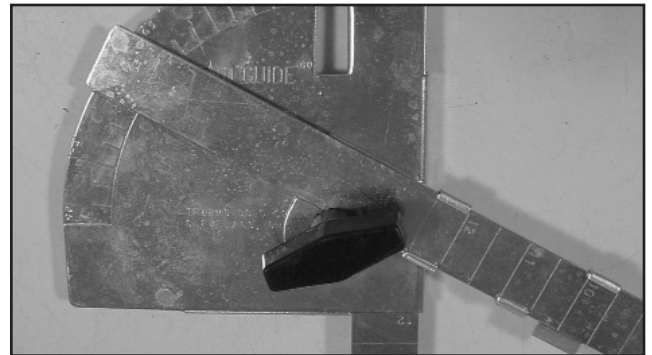

**Figure 8. Set Arms for Correct Radius**
- Bend to desired configuration. Bend-Guide™ simplifies the forming of the bend. It adjusts to any radius 6" to 12", any segment to 90°, any diameter conduit from ½" to 2". See Figure 6 through Figure 8.
- Slide arms to required radius and tighten all adjusting knobs. See Figure 8.